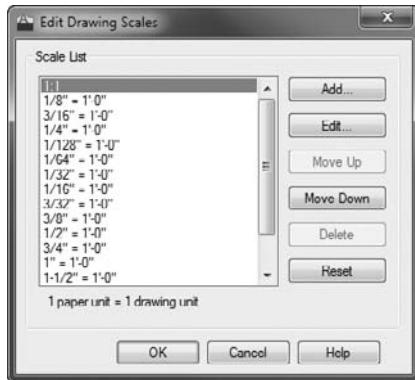

FIGURE 14.78 The Edit Scale List dialog box
1. Select the viewport, click the Viewport Scale button, and choose Custom to open the Edit Scale List dialog box, as shown in Figure 14.78.